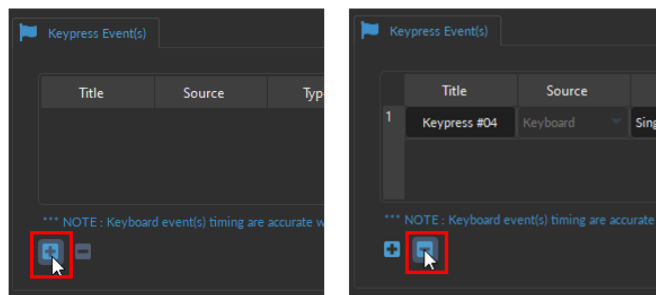

Figure 8.23: Adding and Removing Keypress Events
To add a new **KeyPress Event**, select the + sign at the bottom of the window (Fig. 8.23, left). To remove a Keypress, use the - button (Fig. 8.23, right).
- **NOTE:** Selecting the + button (without clicking the *Add* button or the *Close* button of the *Channel Configuration* window) will **automatically** add the Keypress Event channel at the **bottom** of the Acquisition View window, below the video feed (Fig.8.23).